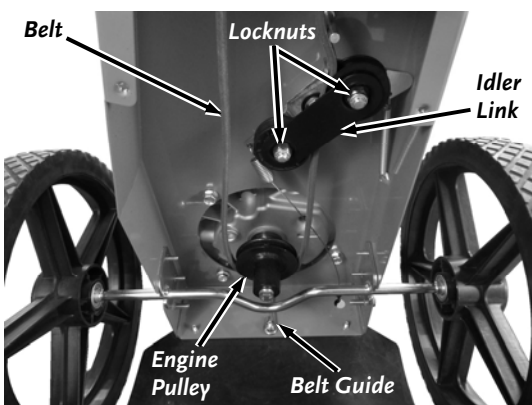

Figure 20
4. Loosen the Belt Guide Locknut using a 7/16" Wrench (**Figure 20**) and rotate the Guide out of the way.
9. Install the small Spacer and V-Groove Idler Pulley. Position the Idler Link over the Idlers and secure with the two Locknuts using a 9/16" Wrench (**Figure 20**).